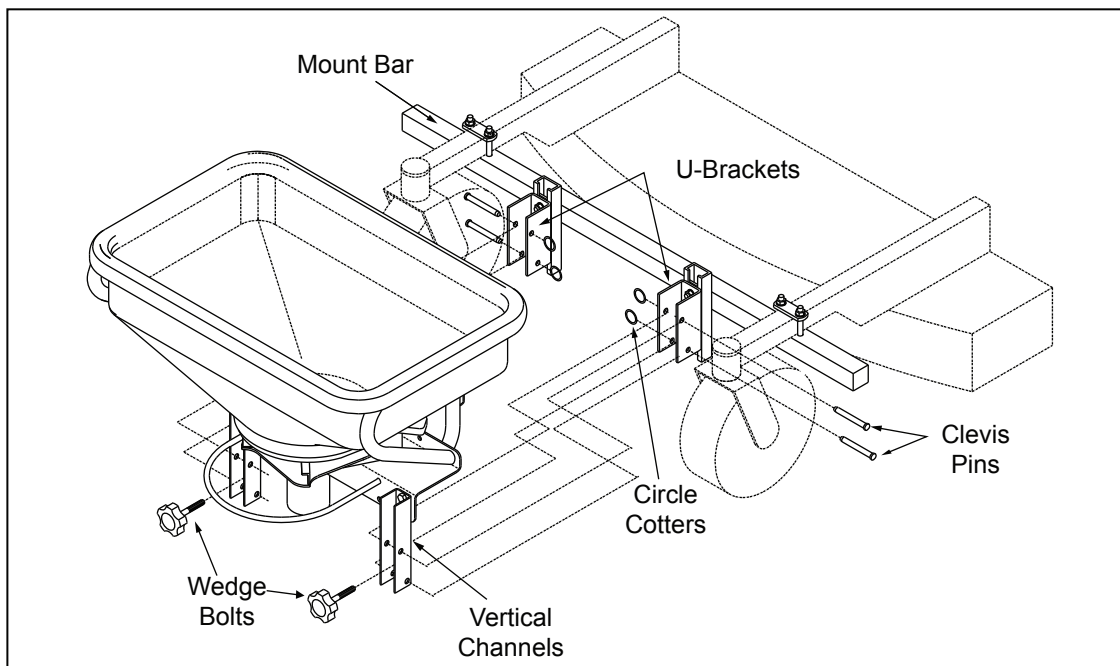

Figure 2
2. Align vertical channels on spreader with u-brackets on mount bar and secure with four clevis pins and circle cutters. See Fig. 2